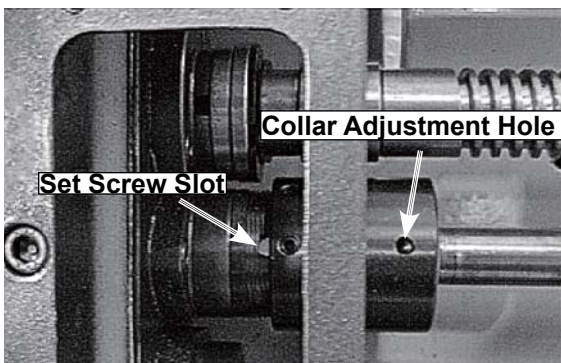

Figure 96. Feed clutch set screw alignment.
4. Insert the hex wrench into the collar adjustment hole shown in Figure 96, and use the wrench to rotate the clutch collar.